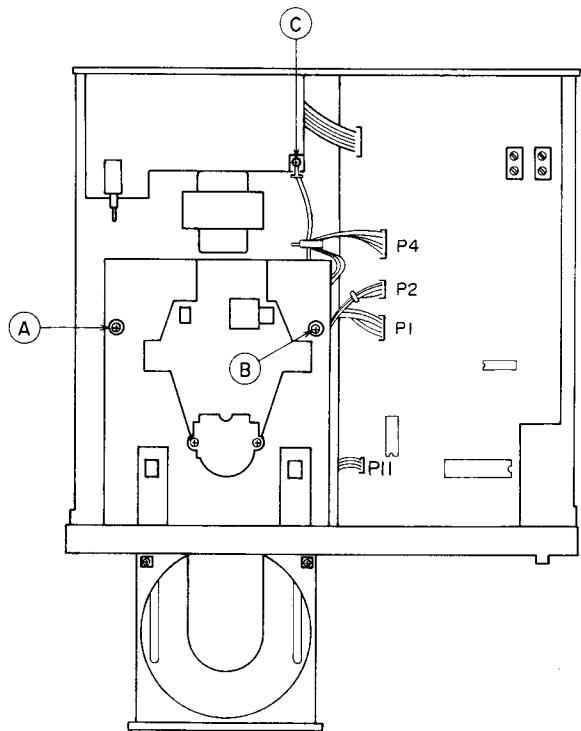

Fig. 4-1
- ① While power is on, set the disc tray to open condition by press the OPEN/CLOSE button, then turn off the power.
- ② Disconnect the connectors P1, P2, P4 and P11 on the MAIN PCB.
- ③ Remove the screws Ⓐ, Ⓑ and Ⓒ. (Refer to Fig. 4-1)
- ④ Press the disc tray and set the disc tray to close condition.
- ⑤ Remove the FRONT PANEL.